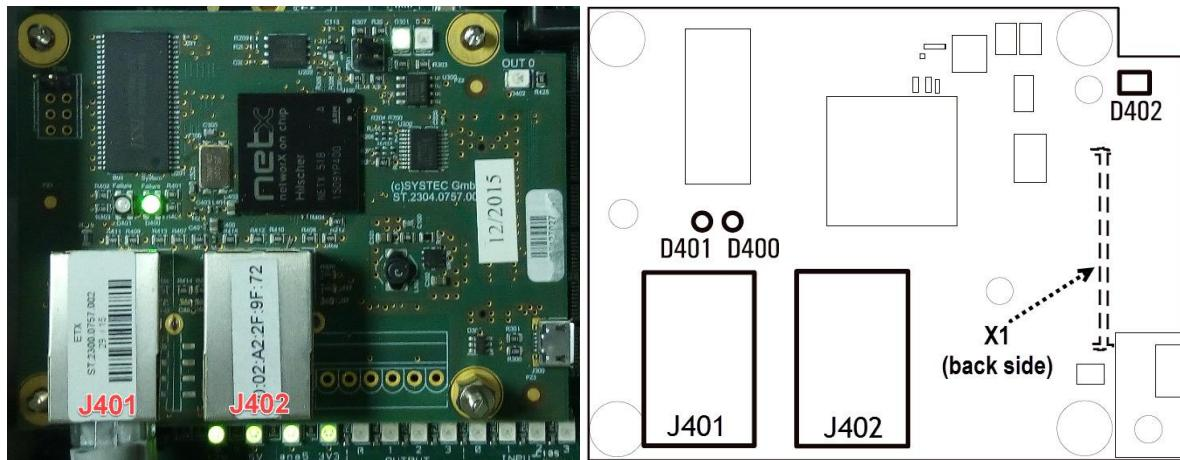

Figure 1: ETX Sockets for Ethernet/IP Communication
- Make sure that you have connected the right Ethernet/IP-Module ETX card on the SpeedAC iQ mainboard as per **Figure 1**.